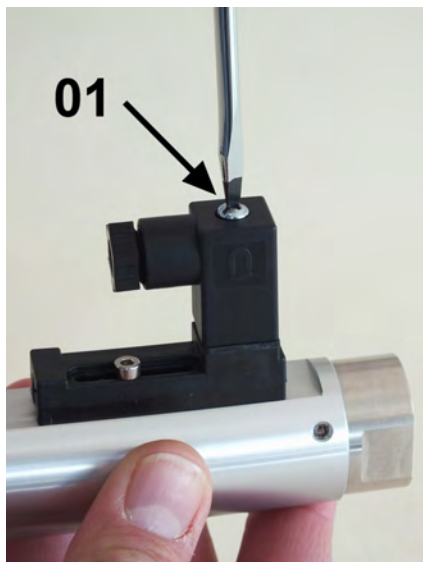

Fig. 21: Detach socket
1. ➔ Release the fixing screw (Fig. 21/01) from the socket.
9. ➔ Plug the socket onto the connector plug and tighten the fixing screw (Fig. 21/01)